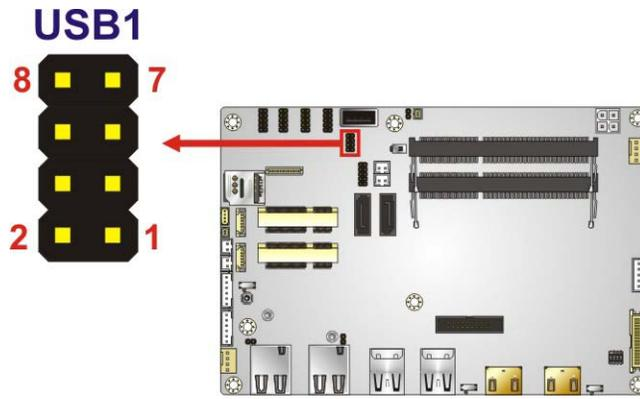

Figure 4-27: USB Connector Location
- CN Location: See **Figure 4-27**